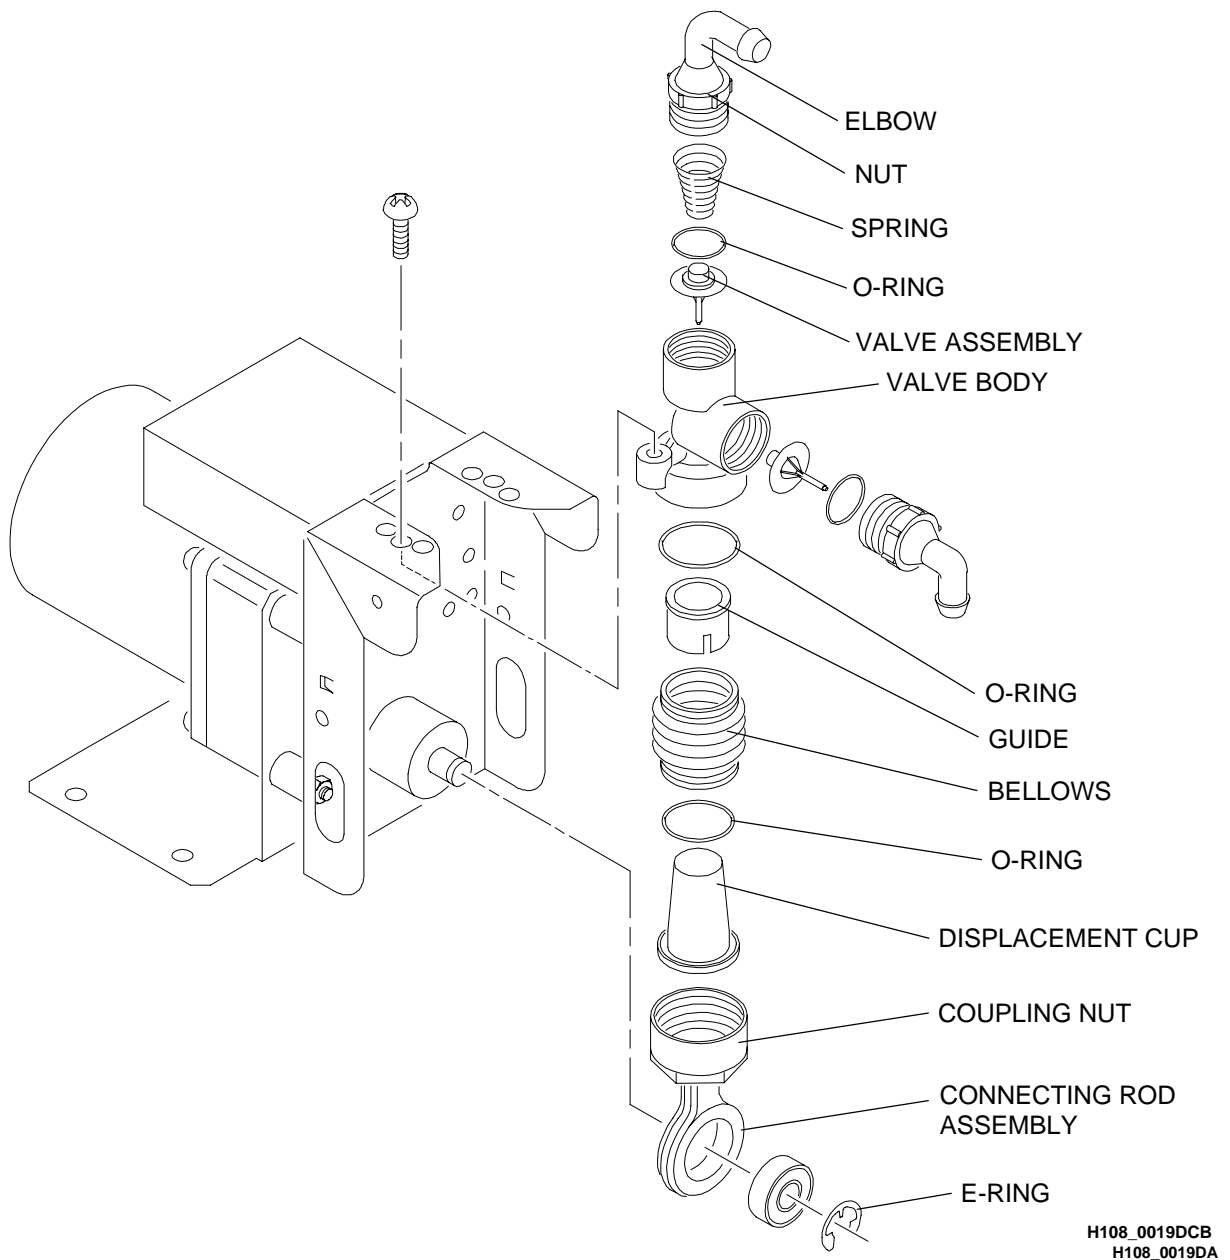

Figure 5-4 Assembling a Replenisher Pump
- [5] If necessary, install new parts or, install a new REPLENISHER PUMP. See Figure 5-4 on page 5-6 for the location of parts.